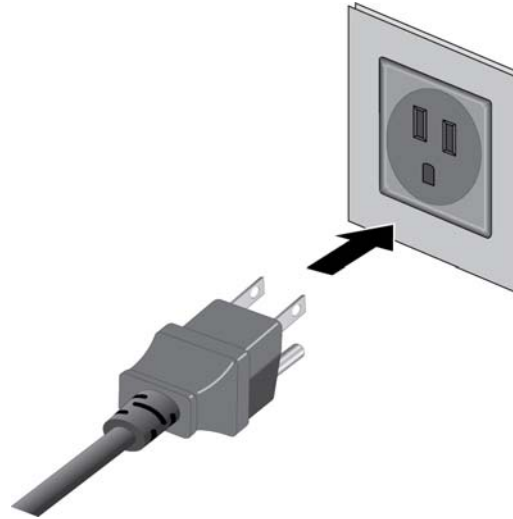

Figure 48. Connecting the Power Cord to an AC Power Source
4. Connect the power cord to an appropriate AC power source. Refer to Figure 48 on page 84.